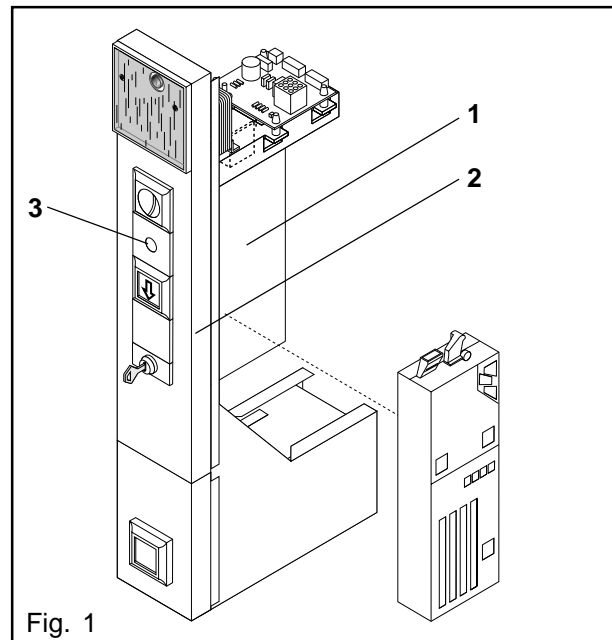

Fig. 1
- Fasten the coin module on the mounting panel (1) of the front insert (2). (Fig. 1)